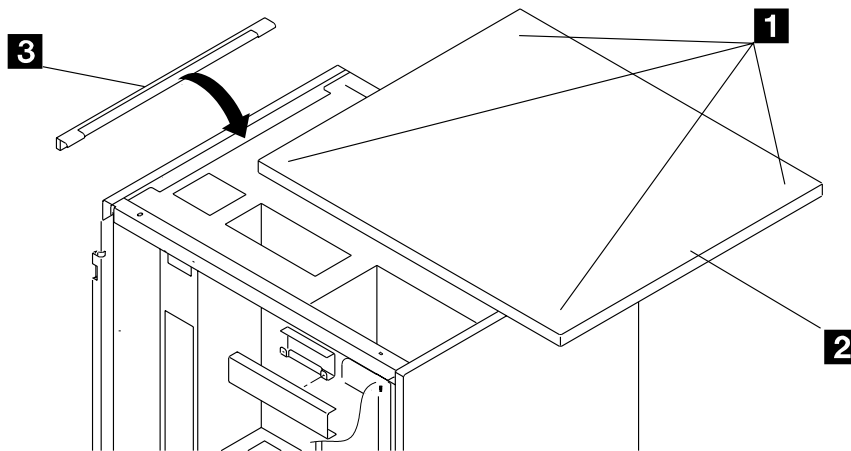

Figure 2-4. Bracket-Spacer Installation (PN 58G5428)
1. \_\_\_\_ Remove the 4 screws **1** and the 3745-17A top cover **2** (see Figure 2-4).